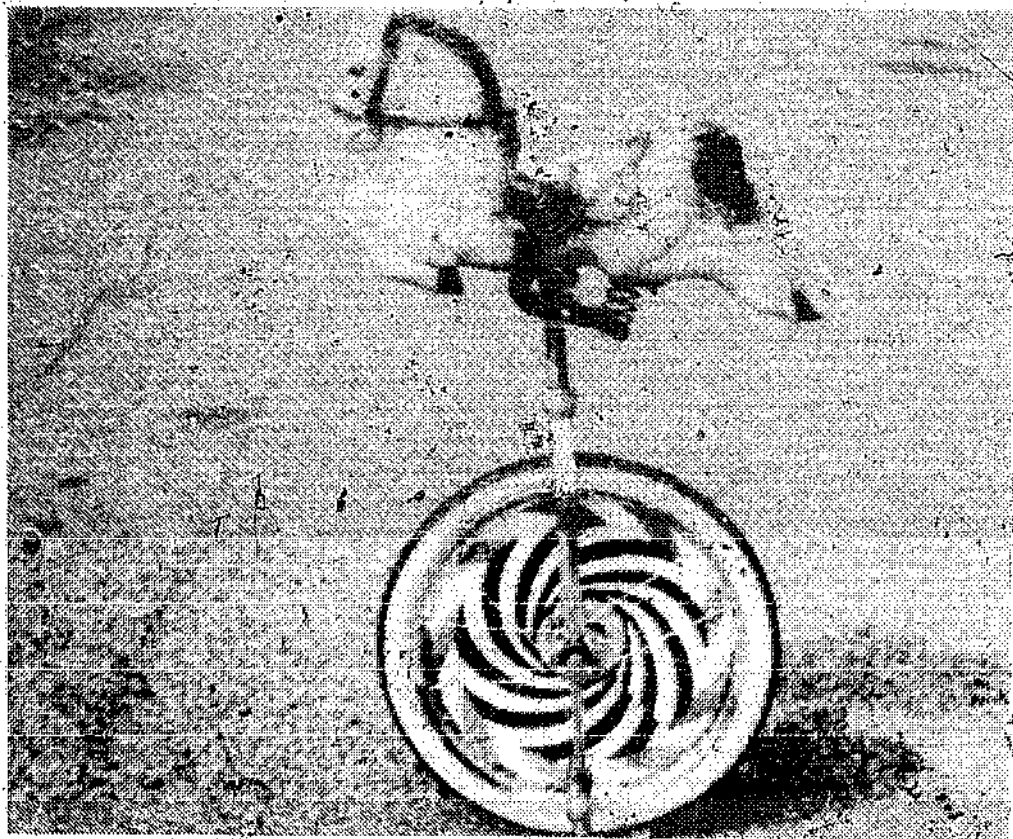

Fig. 15-18. A pony-saddle unicycle.
**Pony-Saddle Unicycle.** The pony-saddle unicycle shown in Fig. 15-18 is part of William M. Jenack's extensive collection of novelty and specialty cycles. Construction is basically the replacement of the saddle on a standard unicycle with a pony, such as the type used on amusement park rides. These can sometimes be purchased at flea markets and junk yards.